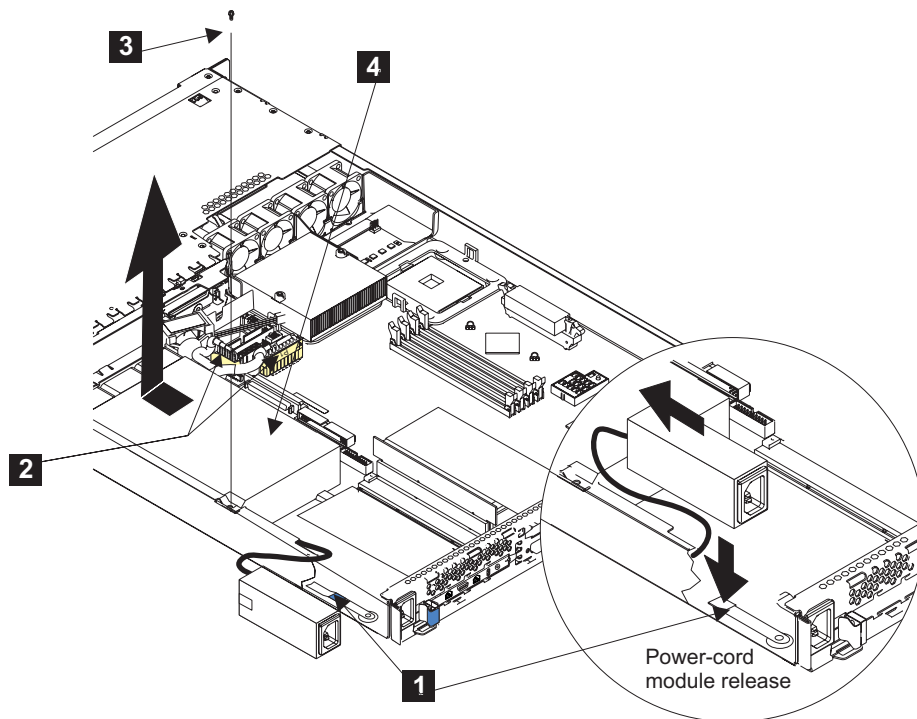

Figure 90. Replacing the SAN Volume Controller 2145-4F2 power supply
1. Slide the power supply **4** into the SAN Volume Controller 2145-4F2. See Figure 90.